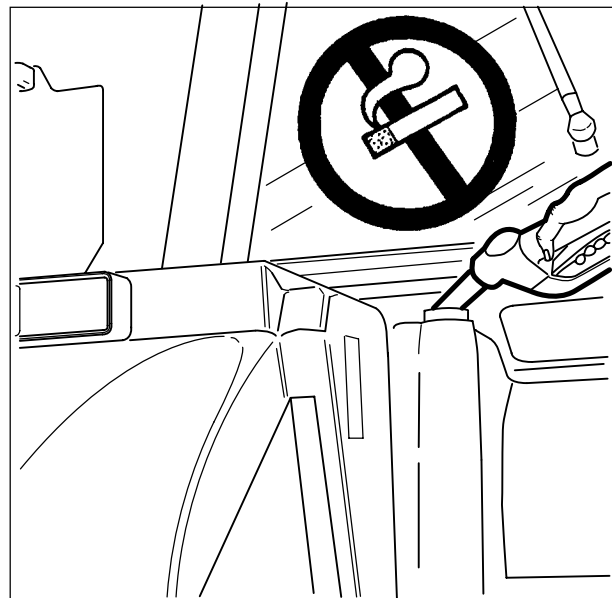

Fig. 11
- DO NOT smoke while refuelling the tractor. Keep any type of open flame away (Fig. 11).